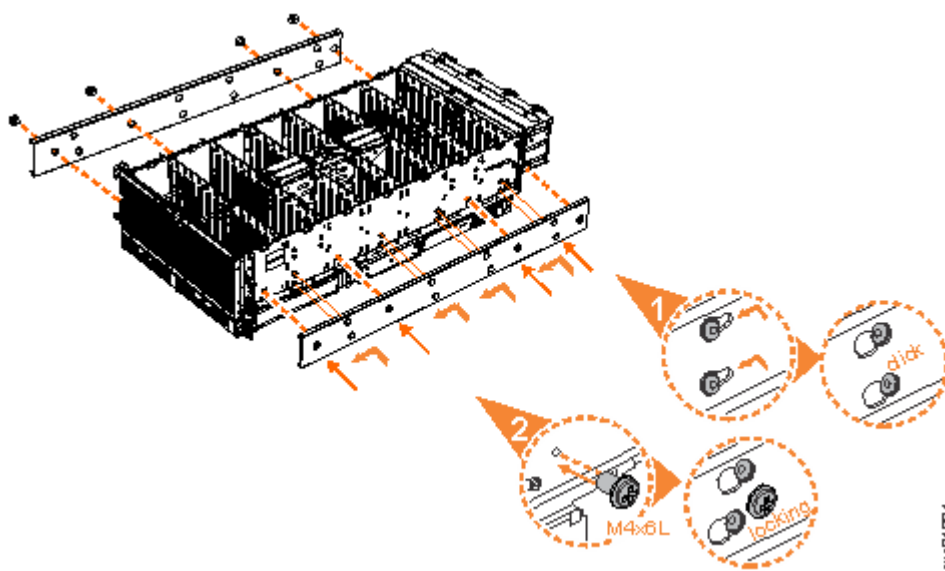

Figure 35. Attaching the inner rail section to the enclosure
5. Install the inner section of the rail onto each side of the expansion enclosure, as shown in Figure 35 on page 45.